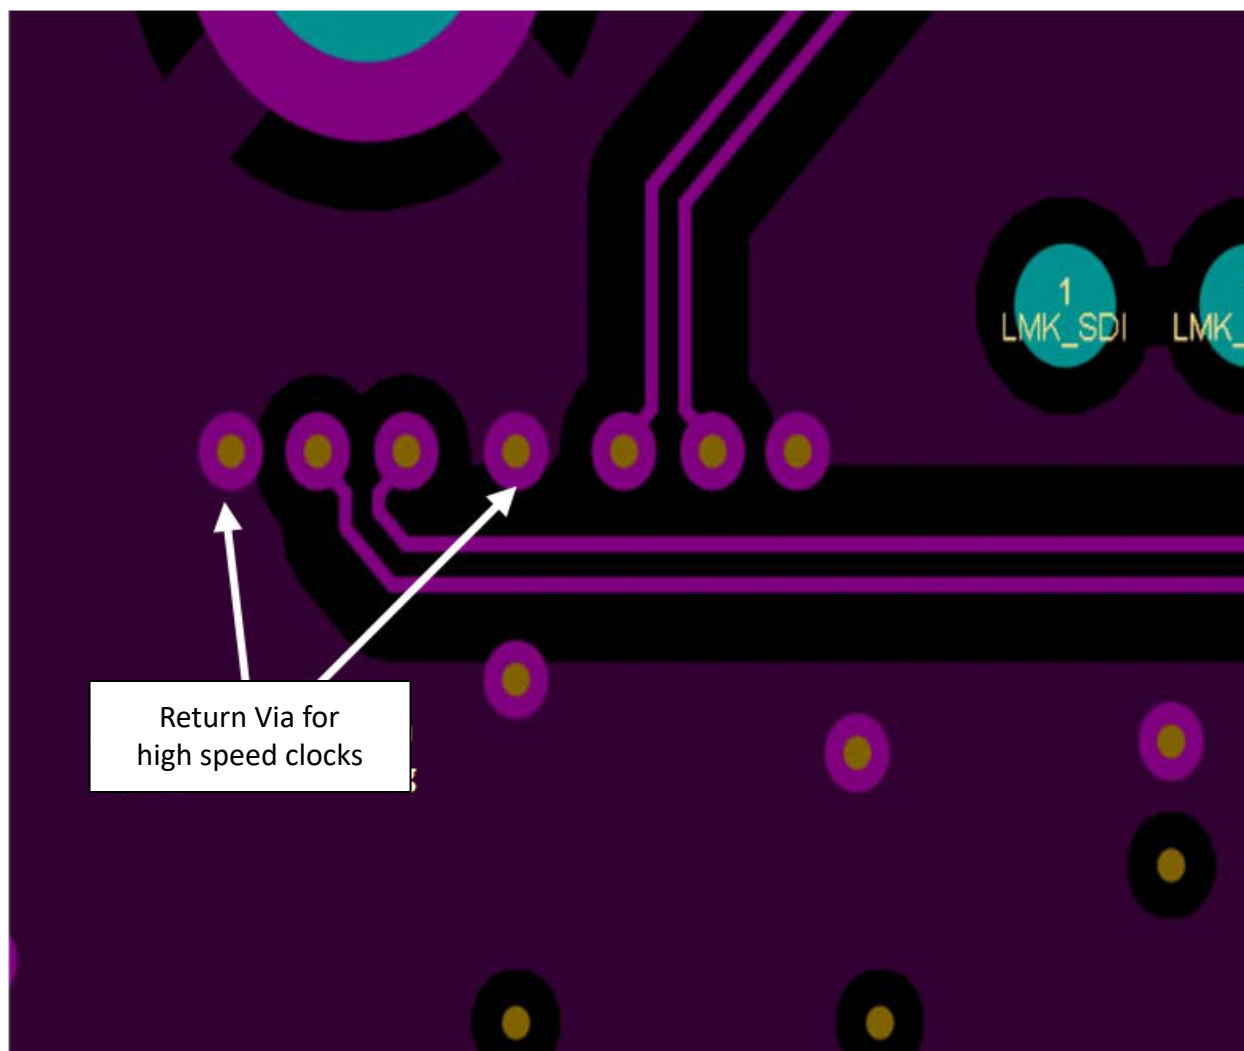
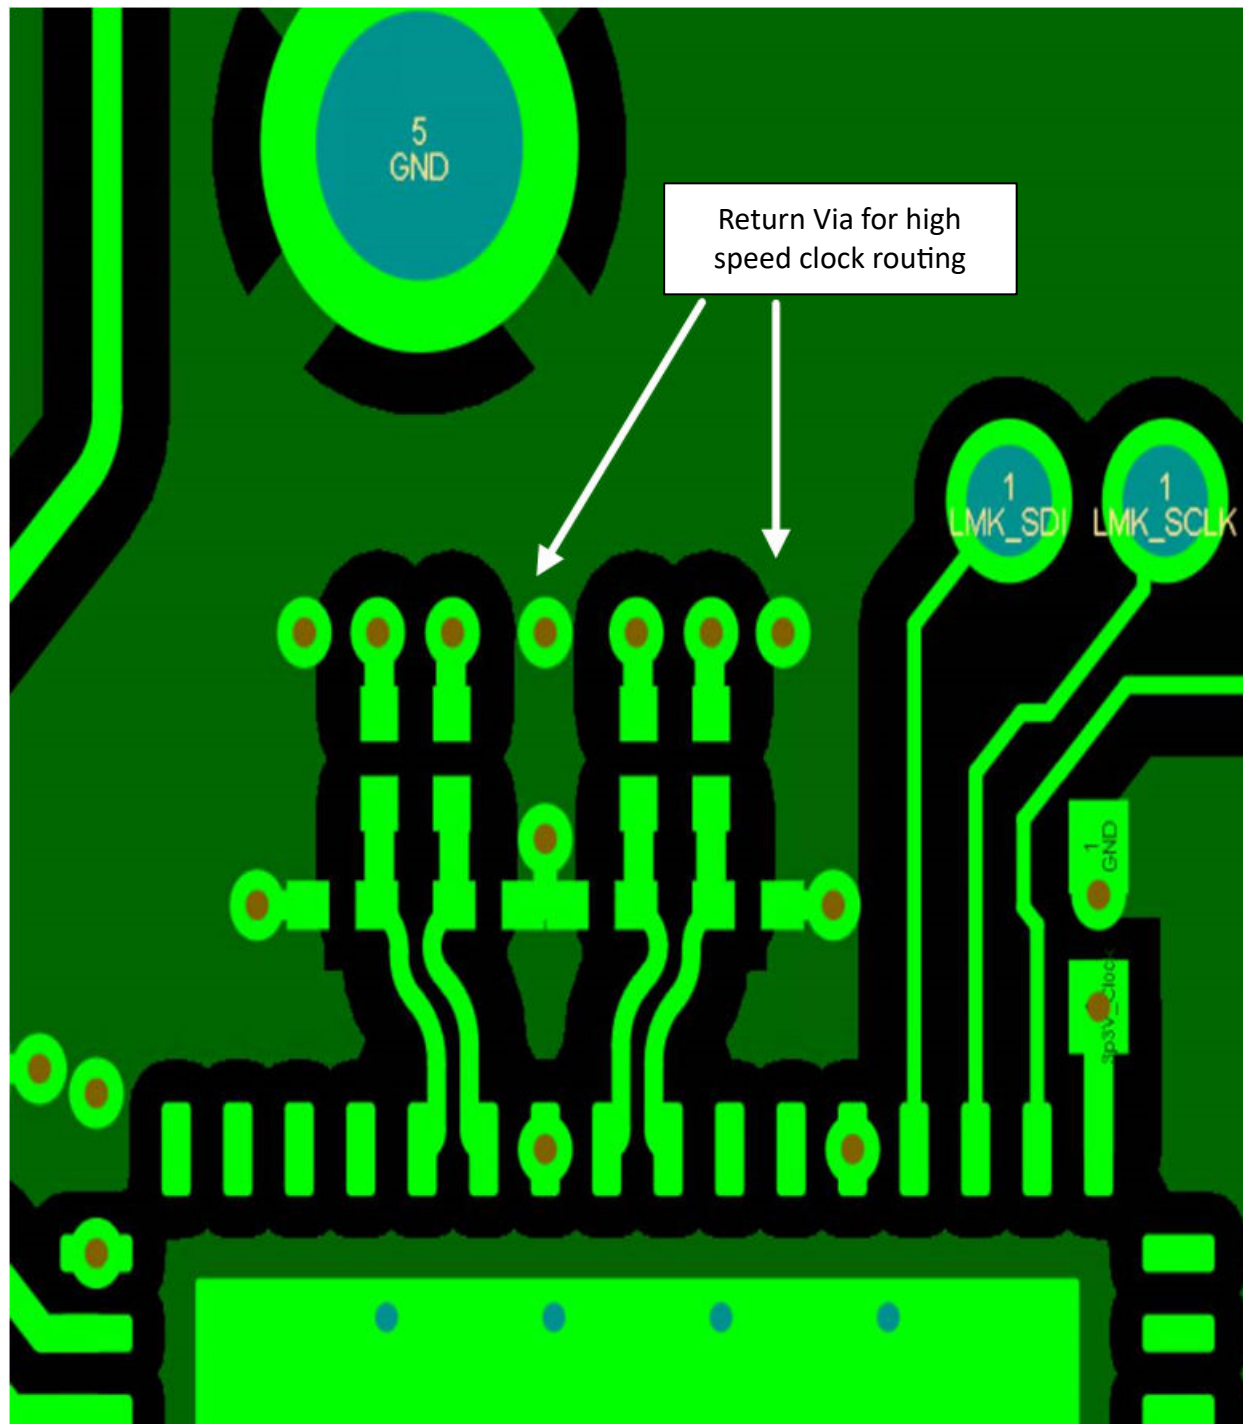

図 8-27. Return Vias for High Speed Clock
図 8-28. Return Vias for High Speed Clock Near Clock Generator
8. When high-speed signals must transition to another layer using vias, transition as far through the board as possible (top to bottom is best case) to minimize via stubs on top or bottom of the vias. If layer selection is not flexible, use back-drilled or buried, blind vias to eliminate stubs. Always place two ground vias (“return vias”) close to critical high-speed signal trace via when transitioning between layers to provide a nearby ground return path. See 図 8-27 and 図 8-28 as examples.